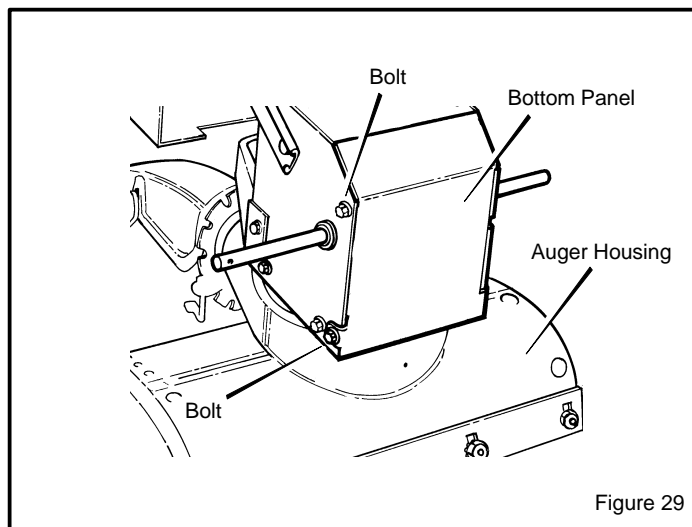

Figure 29
2. Loosen the **bolts** on each side of the **bottom panel** (see Figure 29).
13. Install the **bottom panel** (see Figure 29).